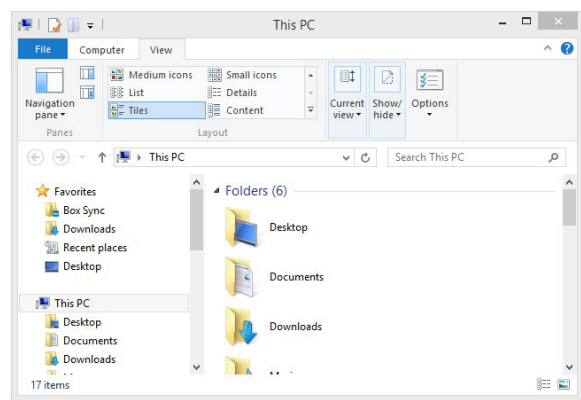

Figure 58: Location of the Options button.
1. Open File Explorer and select the Options from the View menu (**Figure 58**).